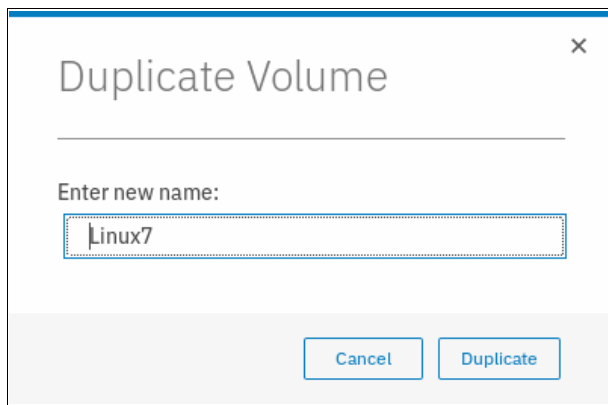

Figure 8-48 Duplicate Volume
2. The Duplicate Volume window (see Figure 8-48) can be used to change the name of the new volume. By default, a sequence integer is appended to the name of the volume to be duplicated.